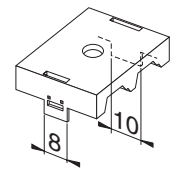

fig.2
- The two lugs on the cover are of different widths to ensure that the connectors and the cables are oriented correctly (Fig.2)